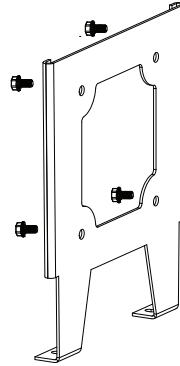

Fig 2. Installing the wall piece
- 2.** Attach the wall piece of the wall mounting bracket to the wall surface so that it is oriented as shown, with the side rails away from the wall and locking flanges on the bottom **(Fig. 2)**.